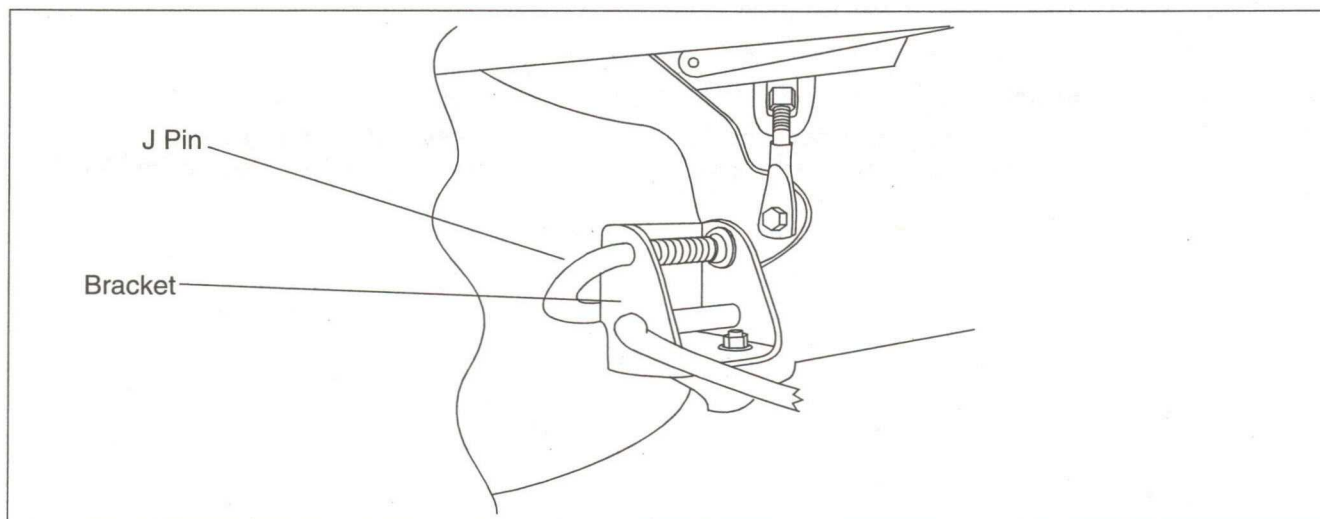

Figure 23
8. Pull the J pin out until the end of the pin is past the bracket. (See Figure 23)